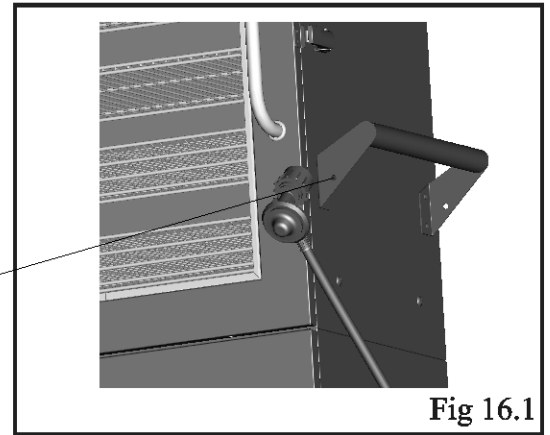

Fig 16.1
1. When the regulator not in use, use the S hook to put it on the right side handle. Fig 16.1